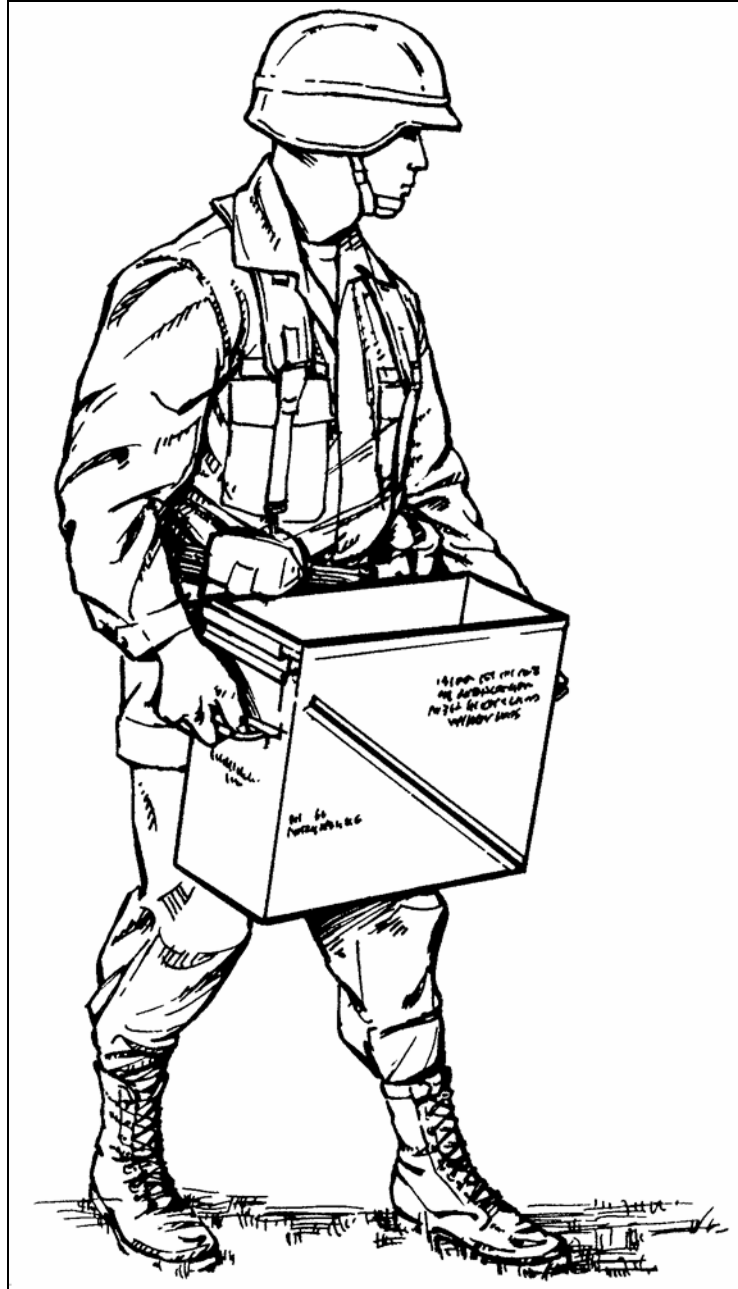

Figure H-8. Ammunition bearer with ammunition can.
- (1) Carries the ammunition can to the MK 19 position (Figure H-8).